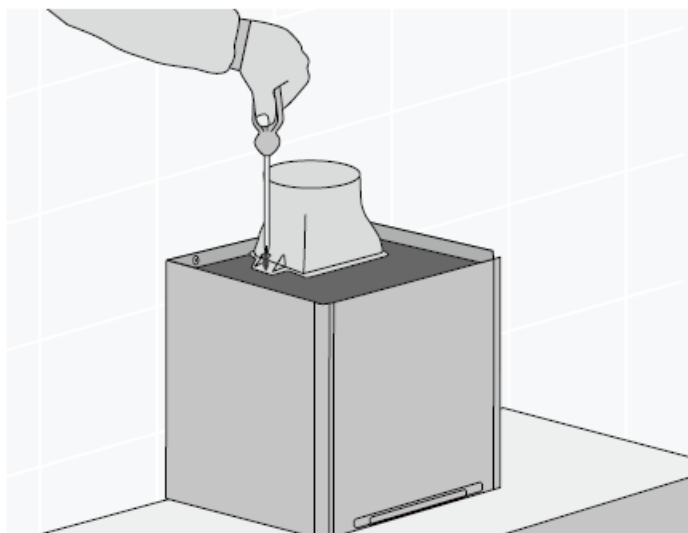

Fig. 8
5. Fix exhaust transition duct using screws supplied (Fig. 8).